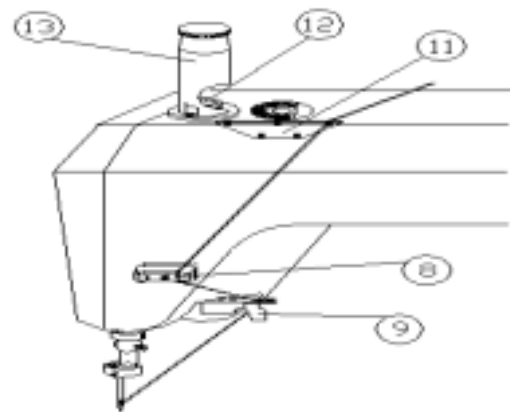
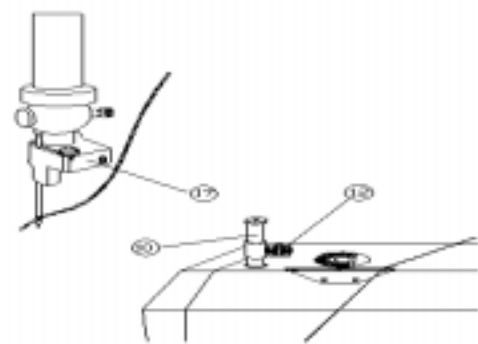

FIG.2
FIG.3
- Mount the machine needle, and make its groove face to the operator. Mount the eye-cover tongue (18), and make the tip of the tongue below the groove of the needle about 0.8-1.2mm. FIG. 2.
- Hold the end of the thread by hand and make it through the thread-braking tension unit and then the thread cutter as shown in FIG. 3. Press the pedal slightly backward with the heel, the tongue will lift and the groove of the needle will open. Put the thread in the groove of the needle. Fig. 2.
- The thread should emerge from the tension spring (8) and pass through the cutter (9) situated under the head, as shown in FIG. 2. Pull it to the left to a maximum of 90 cm. Each threading should never exceed this length.
- Threading with manual movement machine without tongue-lifting mechanism. Bring the machine into the threading position by pressing down on the pedal (6) with the heel. In this position, use the right hand to raise the adjustable cap (10) so as to free the eye of the needle from the tongue. Introduce the thread into the groove will close the groove in the eye of the needle. FIG. 3.
The pressure of the presser foot can be adjusted to suit the fabric. This pressure should be adjusted so as to ensure the uniform and safe transport of the fabric without damage. Turning the regulator clockwise increases the pressure, while turning it anti-clockwise reduces it. FIG. 2.